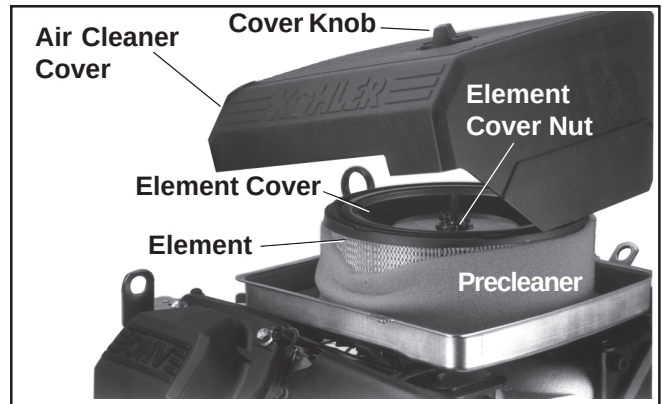
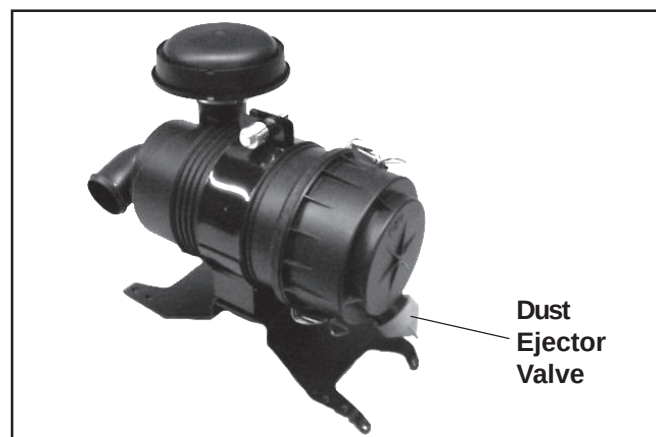

Figure 11. Air Cleaner System Components.
Figure 13. Heavy-Duty Air Cleaner Assembly.
This engine is equipped with a replaceable, high density paper air cleaner element. Most engines are also equipped with an oiled, foam precleaner which surrounds the paper element. See Figure 11. Some engines use the heavy-duty air cleaner system. See Figure 13.
7. Reinstall the end cap so the dust ejector valve is down and secure with the two retaining clips. See Figure 13.